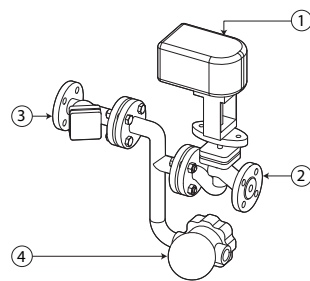

Fig. 4.b
- For threaded control valves, SAKV\*\*\*\*U\*, with an optional fitting kit, SAKR\*\*\*\*U\*, attach the fittings to the valve as shown in figure 4.a.
- Attach the ① optional actuator, SAKA\*\*\*\*, to the ② control valve.